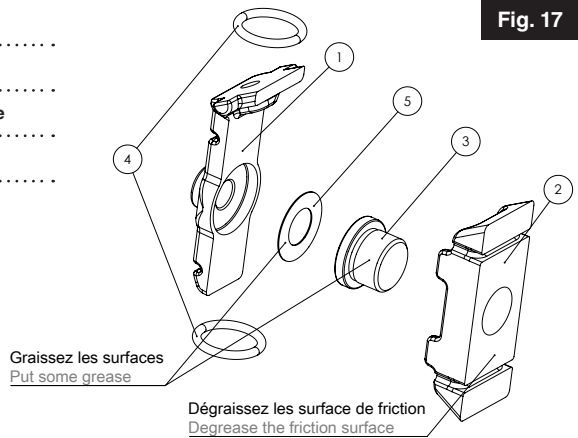

Fig. 17
- 1 / Make sure that the collet is in the closed position, that is to say that parts 1 and 2 (Fig. 17) are in contact.